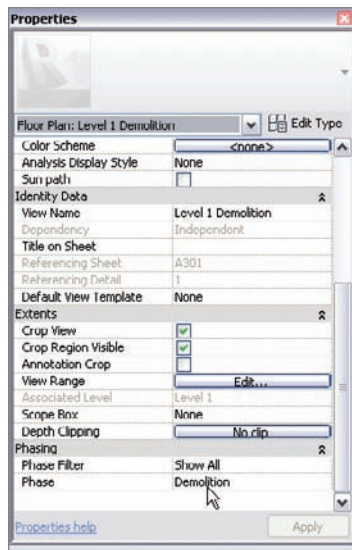

FIGURE 21.16 Changing Phase to Demolition
5. In the Properties dialog, set the phase to Demolition (see Figure 21.16).